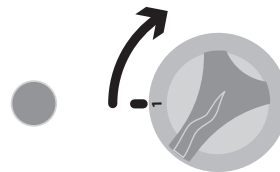

Fig. 7A
4. Turn the knob to "Zero" (Fig. 7A) to switch the appliance off at the end of the work cycle.